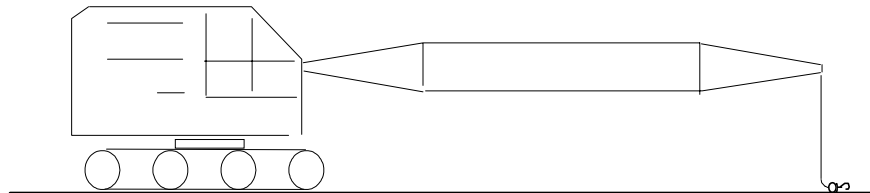

Figure 8
3. Put the Aux. hook on the ground (Fig. 8), and let the lines go slack.